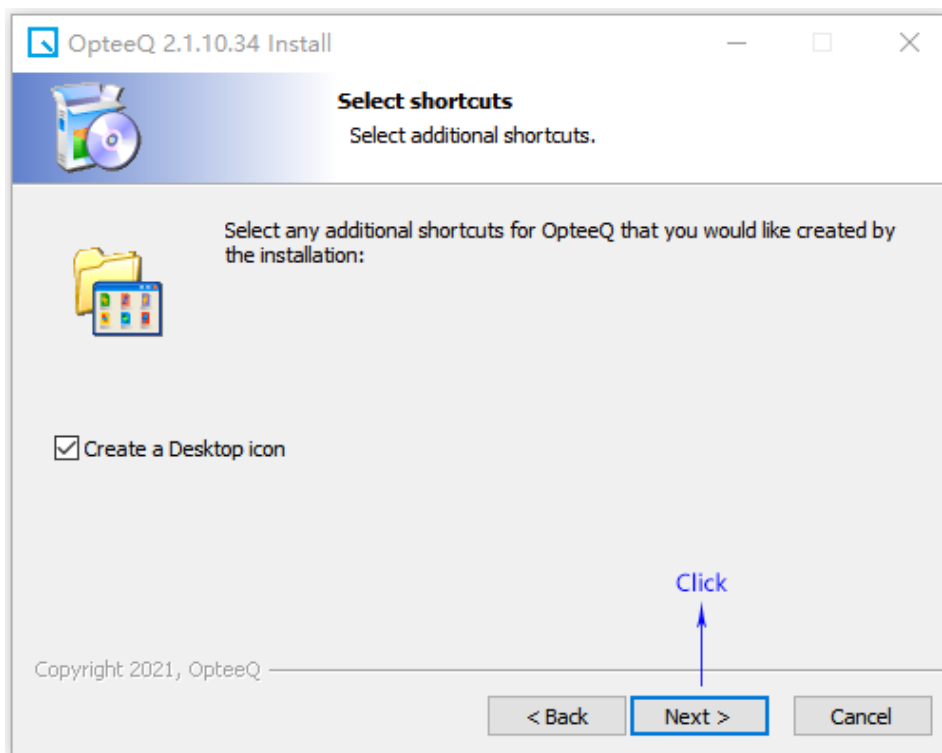

Figure 1.7: Step 7
Step 7: Click "Next" in the pop-up interface, as shown in Figure 1.7.